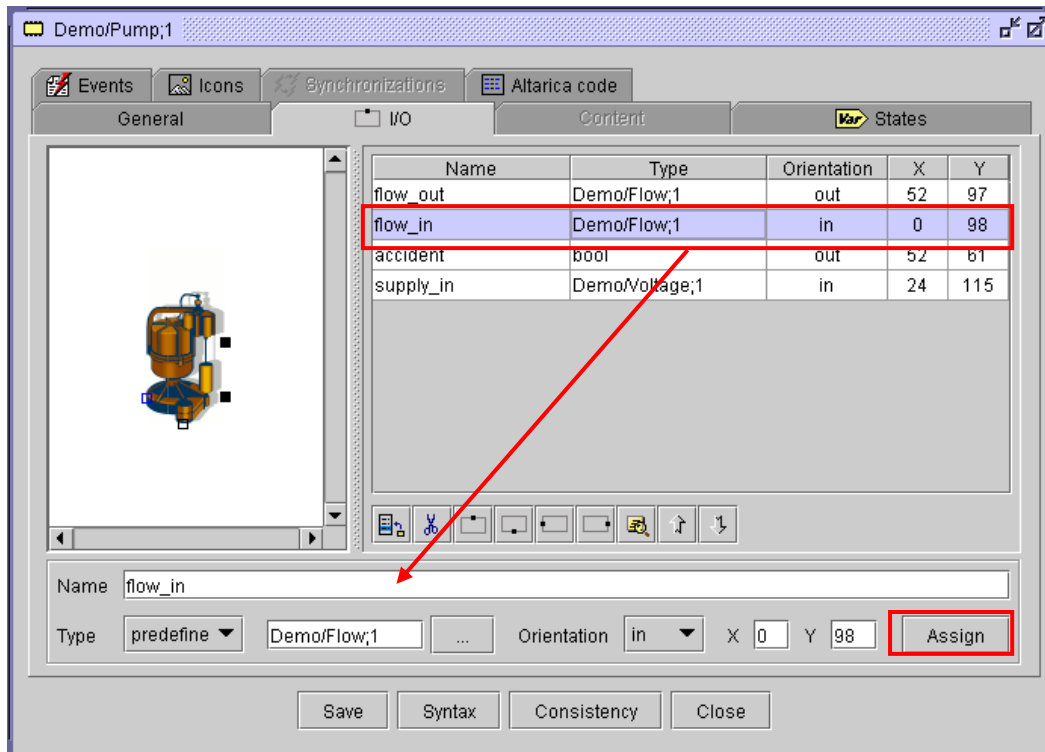

Figure 71: Modification of a port
- ♦ Click on the port to select it in the list. The fields Name, Type, Orientation, and Coordinates are updated and can now be modified (Figure 71).